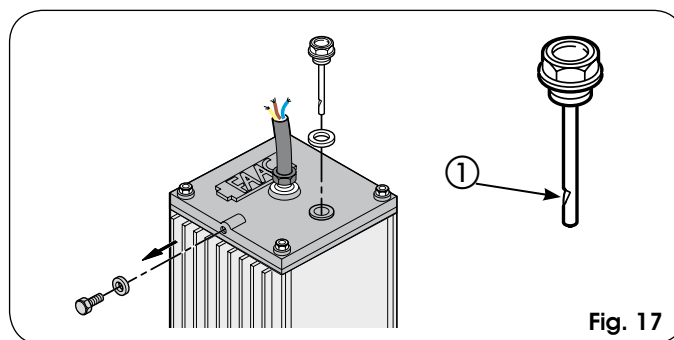

Fig. 17
The level must not drop below the notch of the control stick (Fig. 17 ref ①).
To top-up, unscrew the filling plug (fig.17) and pour in oil up to the correct level.
If the barrier has to be moved manually due to a power cut or fault of the automated system, operate the release device with the supplied key. The supplied release key can be triangular (Fig. 17 ref.①) or customised (Fig. 17 ref.② optional).
- Insert the release key in the lock and turn it **anti-clockwise** through one complete rev. as shown in Fig. 17.